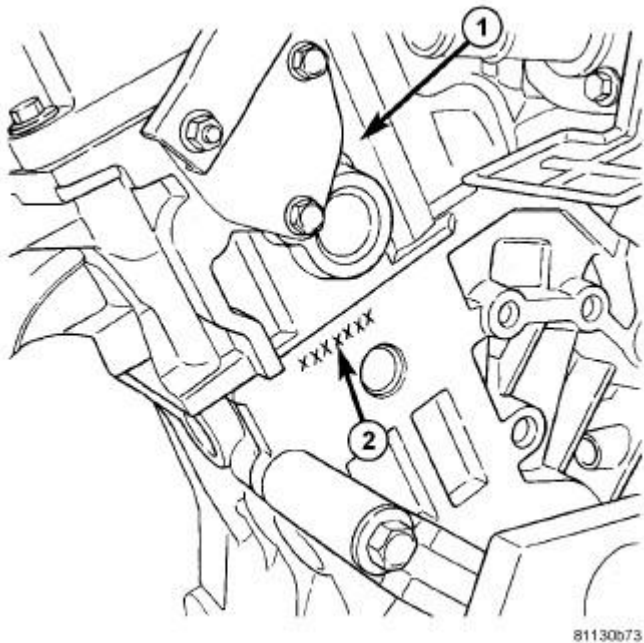

Fig. 3: Engine Identification
The engine identification number (2) is located on the rear of engine block just below the left cylinder head (1). Refer to **Fig. 3**.